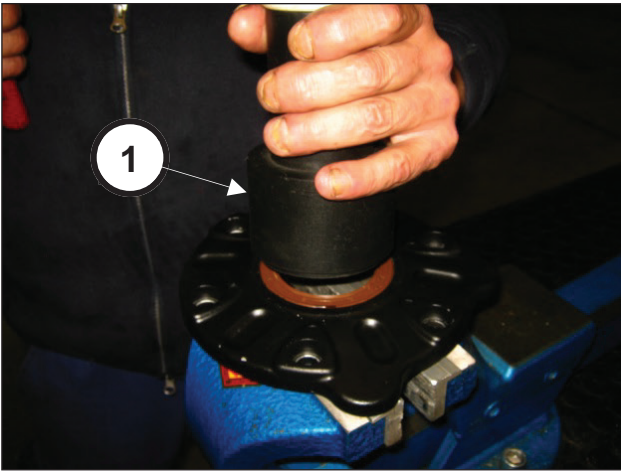

Fig. 77
Insert the seal ring inside the pinion cover using the special tool code 27548200 (pos. ①, Fig. 77).